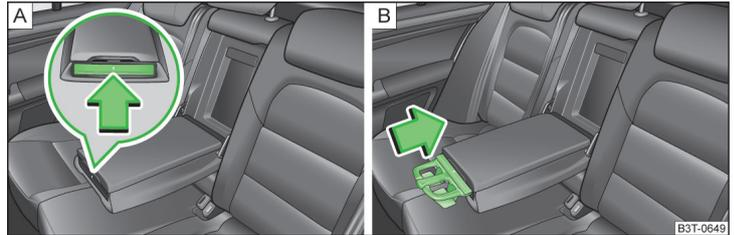

Fig. 84 Rear armrest: Remove cup holder/insert cup holder
- Press on the front end of the armrest in the direction of the arrow » Fig. 84 - **A**, the cup holder comes out.
- To slide the cup holder in again, press the middle part of the cup holder » Fig. 84 - **B** and slide it into the armrest in the direction of the arrow.